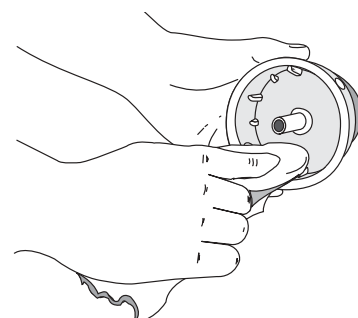

Figure 28
4. Use a clean cloth to wipe the inner reel, spring, shaft, and inner surface of the outer spool. See Figure 28.